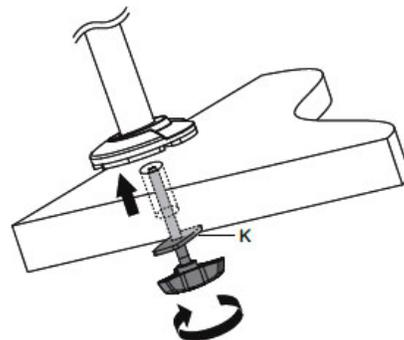

Figure 7
5. Insert the clamp screw into the Grommet Clamp (K). Position the Tube Support on the mounting surface, then secure it using the Grommet Clamp (K) and clamp screw, see Figure 7. **Warning:** Carefully screw the clamp screw into the Grommet Plate to prevent cross-threading and damage to the clamp screw.